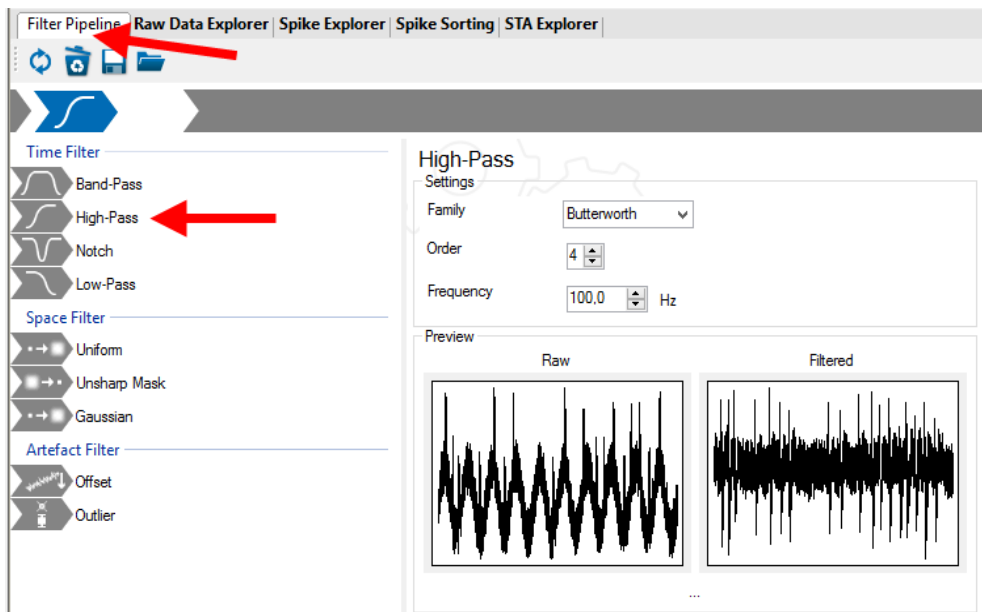

Figure 34: Setting a high-pass filter
- **Filter Tool:** Set appropriate filters for your data. We will use a high-pass filter at 100 Hz in this tutorial (Figure 34), but more sophisticated filter pipelines are definitely possible by combining filters.